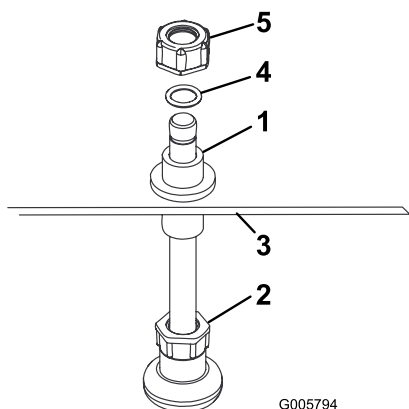

**Figure 6**
- Install the bulkhead fitting with the seal facing down into the hole drilled in the main tank (Figure 6).
**Important:** Ensure that the seal is seated correctly between the bulkhead flange and the tank surface (Figure 6).
- Secure the fitting and seat the seal by installing the plastic ring nut to the threads of the fitting in the tank interior and hand tightening (Figure 6).